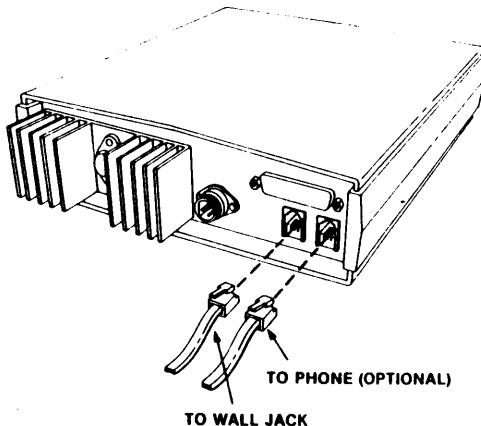

Figure 1-4 Telephone Connections
2. Plug the cable into the **LINE** jack on the modem's rear panel so the modem is now connected to the wall jack (see Figure 1-4).